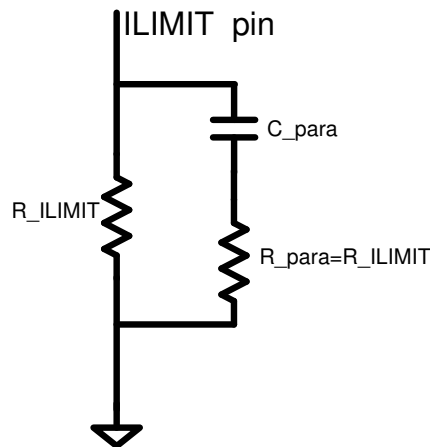

图 10-21. RC Network in Parallel with R_{limit}
- In order to meet the MFI OC requirement, an RC network is needed in parallel with R_{limit} resistor as shown in 图 10-21. Suggest selecting $R_{para} = R_{limit}$, $C_{para} = 100$ nF.